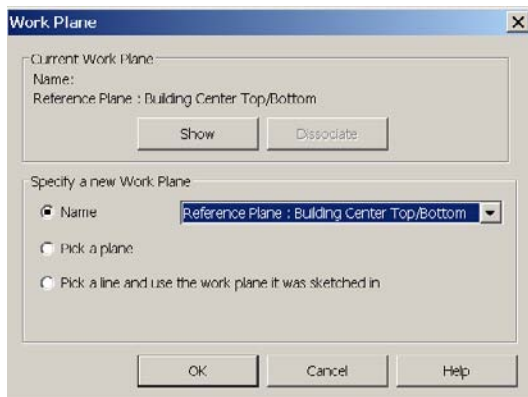

Figure 7.29
3. Choose Set from the Work Plane panel, and select Reference Plane: Building Center Top/Bottom from the Name drop-down (Figure 7.29). Click OK.